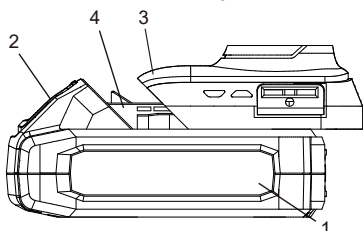

Fig. 3
1. Remove the battery (1) from the driver by pressing downward on the battery release button (2) and sliding the battery backward until it is removed from the driver handle (3) (Fig. 3).
2. Slide the fully charged battery onto the matching keys (4) in the driver handle where the discharged battery has been removed.
NOTE: See Fig. 3 for complete procedure.